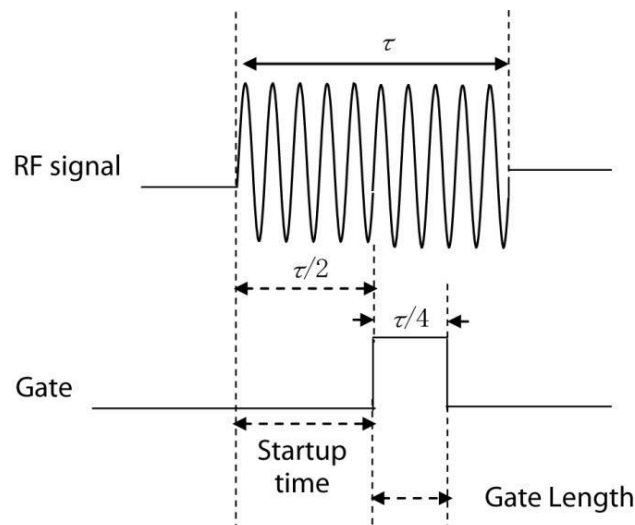

Fig. 4.52 Positioning of time gate
Generally, the gate is required to be placed in the area of stable signal, instead of pulse edge or transition zone; otherwise, it will interfere with the spectrum. The gate signal comes from the center of the pulse, and the SUT is calculated after the width of about half a pulse. The setup time (SUT) refers to the duration prior to the arrival of gate and after the signal stability. The SUT is required to set to be long enough for the resolution bandwidth filter of transient burst. The signal delay (SD) refers to the time interval between the trigger event and stable signal. If the trigger event and signal appear simultaneously, the SD will be 0 and the setup time (SUT) is equal to the delay time, otherwise the SUT is equal to the value of gate delay time subtracting the SD, as shown in Fig. 4.52.